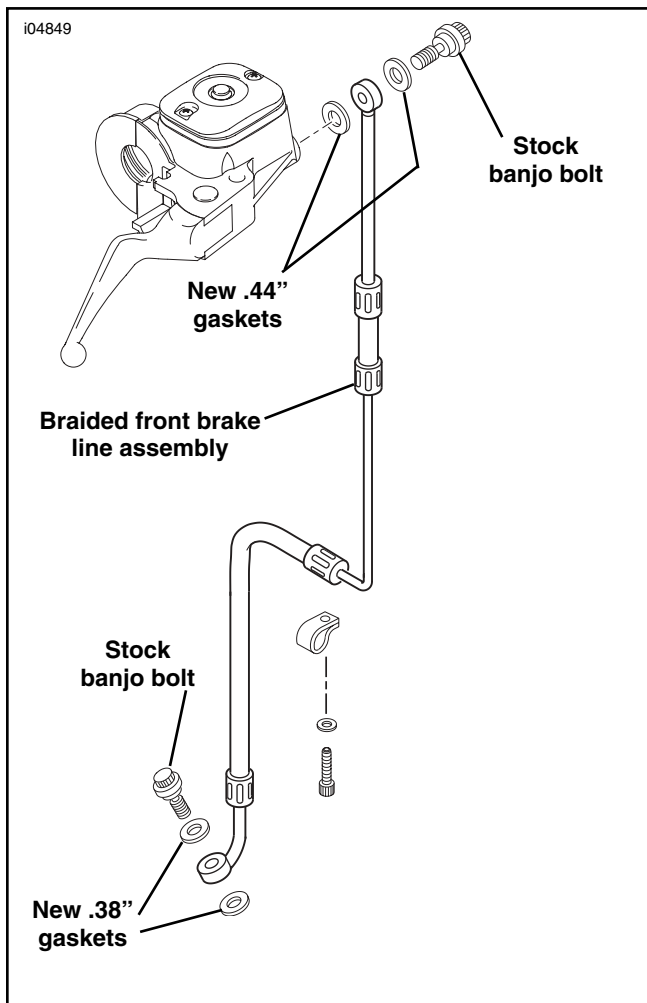

Figure 3. Front Braided Brake line Assembly
1. See Figure 3 and the Service Parts illustration.